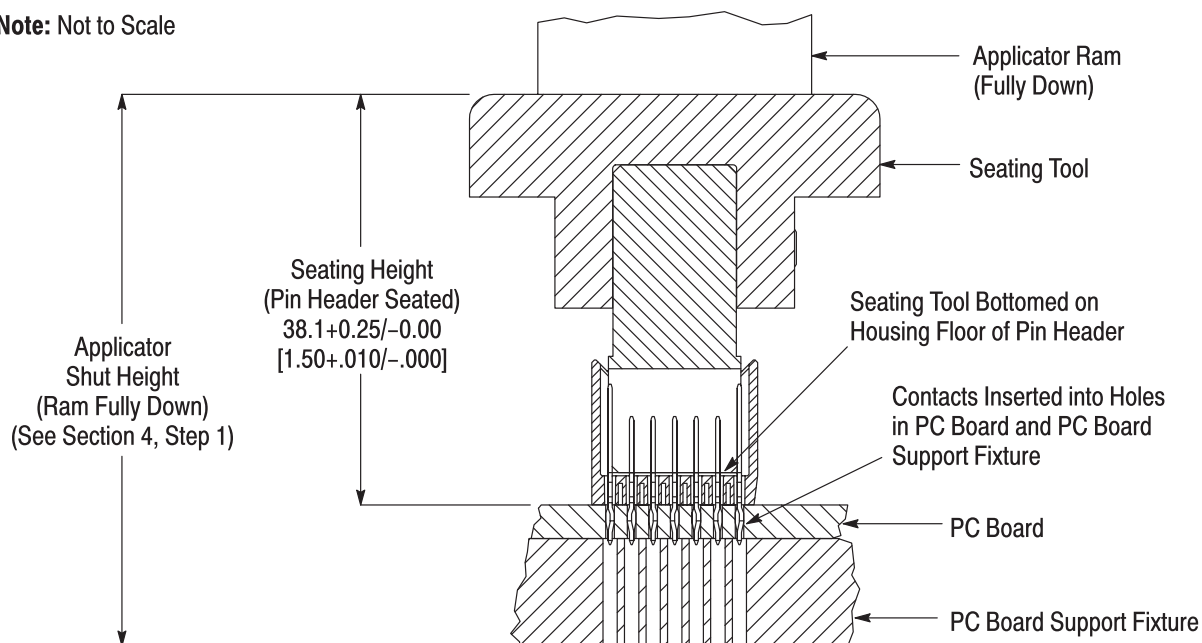

Figure 2
1. Set seating height to the dimension shown in Figure 2 (applicator *shut height* will equal the seating height PLUS the combined thicknesses of the pc board and pc board support fixture).